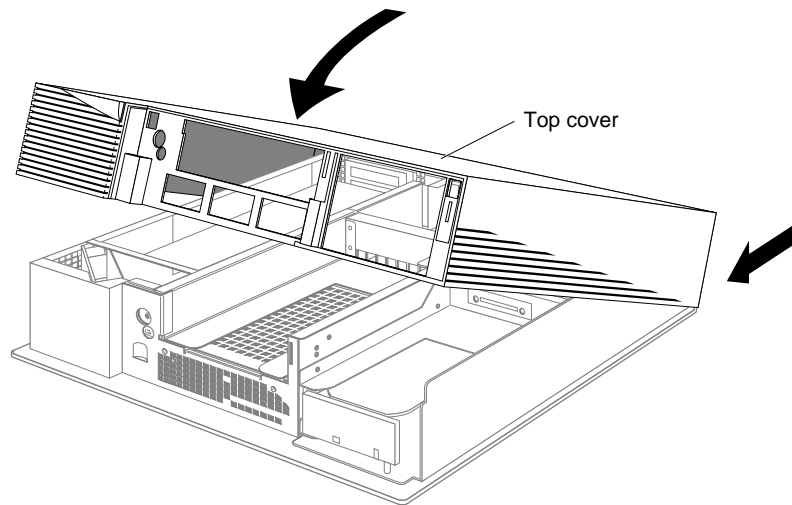

Figure 5-3 Replacing the top cover of the Indigo² chassis
2. Place the back of the chassis cover into the grooves in the back of the chassis, as shown in Figure 5-3. Rotate it down into place.